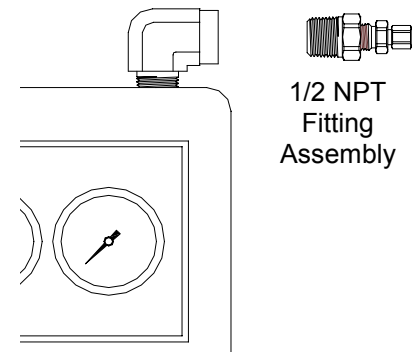

FIGURE 4
- 6) Install the supplied 1/2 to 1/8 tube fitting assembly to the port opened in step 5, using Teflon tape to seal the threads. (Figure 4)